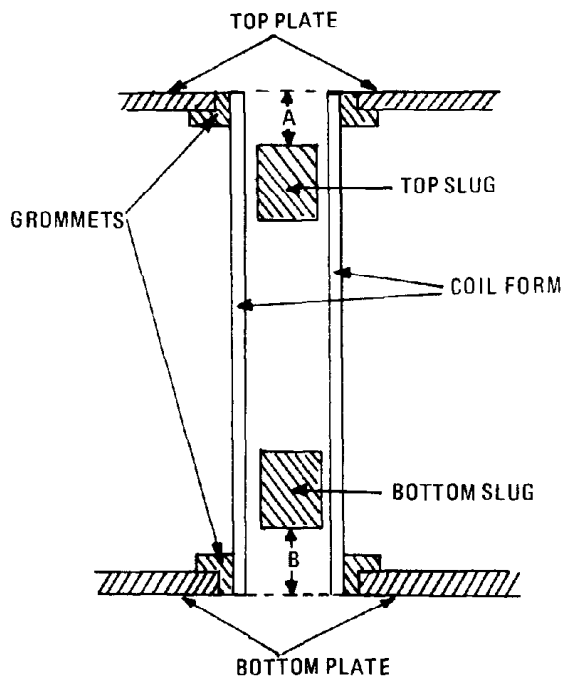

Figure 6. Coil Slug Measurement
*Top slug positions are measured from the top plate of the assembly and bottom slugs are measured from the bottom plate. (See Figure 6) use of a paper clip or similar device and a ruler is very helpful if a depth gauge is not available.